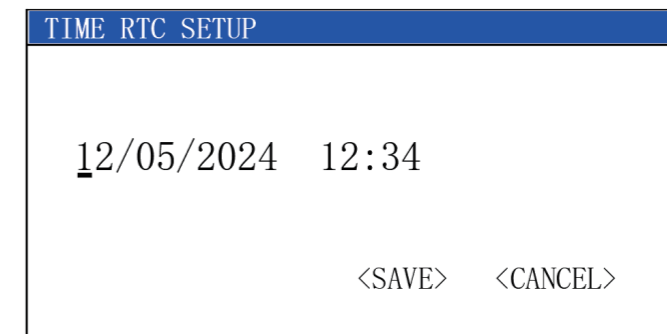

Figure6.6.1
- a:In the system settings menu, select the <RTC TIME SETUP> item and press the [ENT] key to open the local time setup dialog, as shown in Figure 6.6.1.